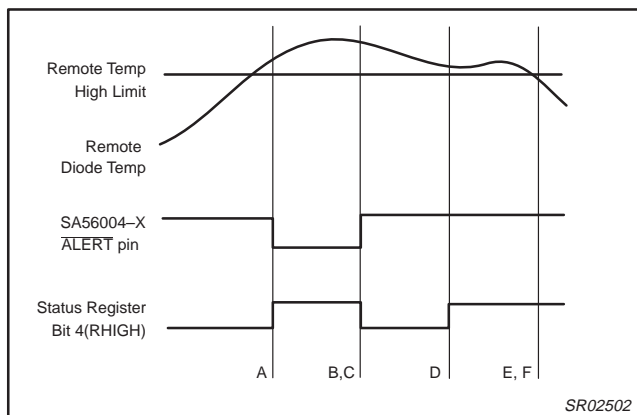

Figure 13. $\overline{\text{ALERT}}$ output in Interrupt Mode
In the interrupt mode, the ALERT output is used to provide an interrupt signal that remains asserted until the interrupt service routine has elapsed. In the interrupt operating mode, a read of the Status register will set the $\overline{\text{ALERT}}$ mask bit 7 of the Configuration register if any of the temperature alarm bits of the status register is set with exception of BUSY (D7) and OPEN (D2). This protocol prevents further $\overline{\text{ALERT}}$ output triggering until the master device has reset the $\overline{\text{ALERT}}$ mask bit at the end of the interrupt service routine. The Status register bits are cleared only upon a read of the status register by the serial bus master (See Figure 13). In order for the $\overline{\text{ALERT}}$ output to be used as an interrupt, the ALERT Configure bit D0 of the ALERT Mode (AM) register must be set LOW. Note, this is the POR default.